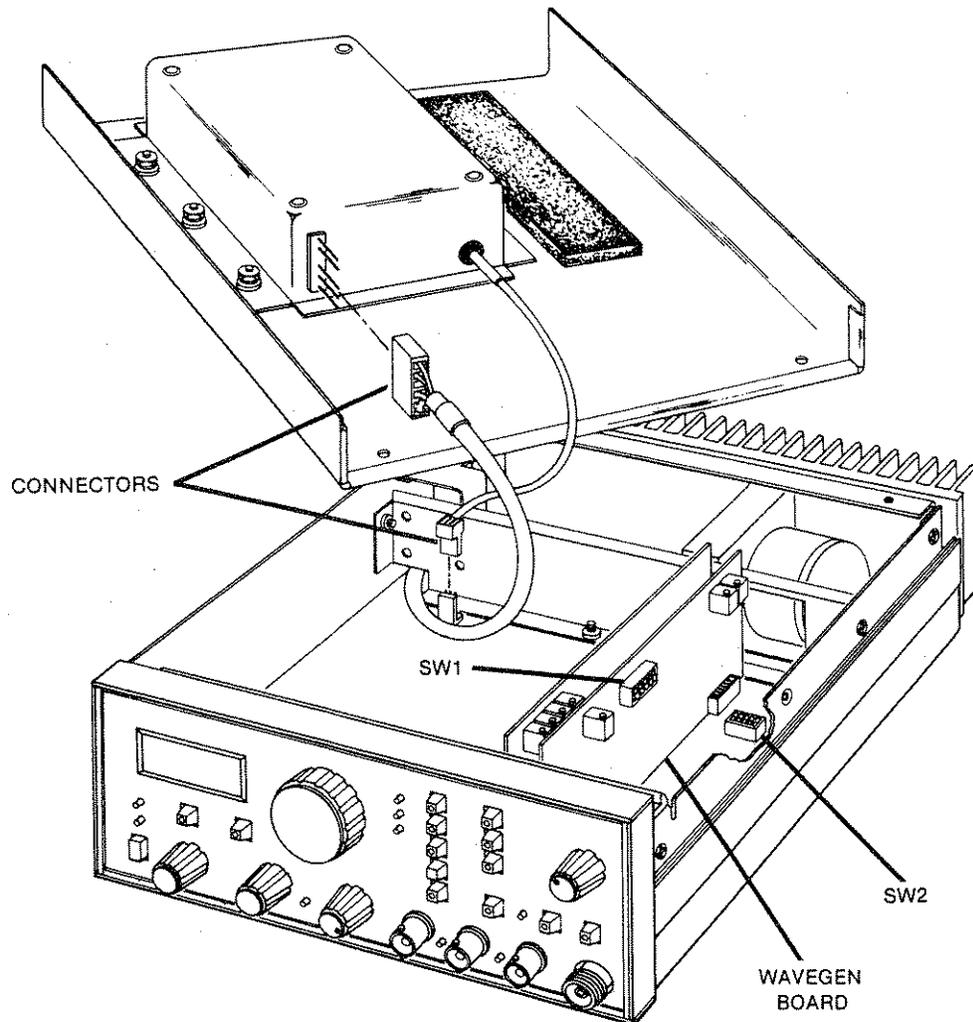

Figure 2-2. Switch Location
- To remove the top cover, remove the two screws at the rear of the cover and lift the cover off. It is usually possible to set the top cover with the power supply cable still attached to the left of the Micro Sweep. If the top cover needs to be disconnected from the Micro Sweep, refer to figure 2-2.
- Set SW2, located on the Main Board (refer to figure 2-2), for the desired marker type; refer to the following table. It may be easier to remove the WaveGen board before setting the switch SW2.
- To remove the top cover, remove the two screws at the rear of the cover and lift the cover off. Note: the power supply module is attached to the top cover and may need to be disconnected See figure 2-2.
2. To remove the top cover, remove the two screws at the rear of the cover and lift the cover off. Note: the power supply module is attached to the top cover and may need to be disconnected; see figure 2-2.